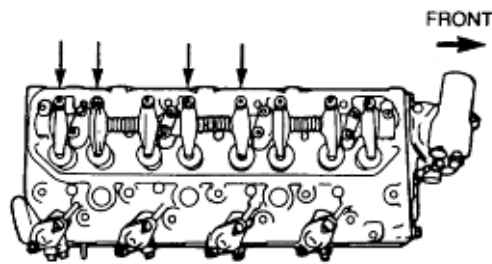

Figure 13 Valve Adjustment Second Sequence
- g. Check that the clearance of the valves indicated in Figure 13 is 0.4 mm (0.016 in). Adjust the clearances as necessary.